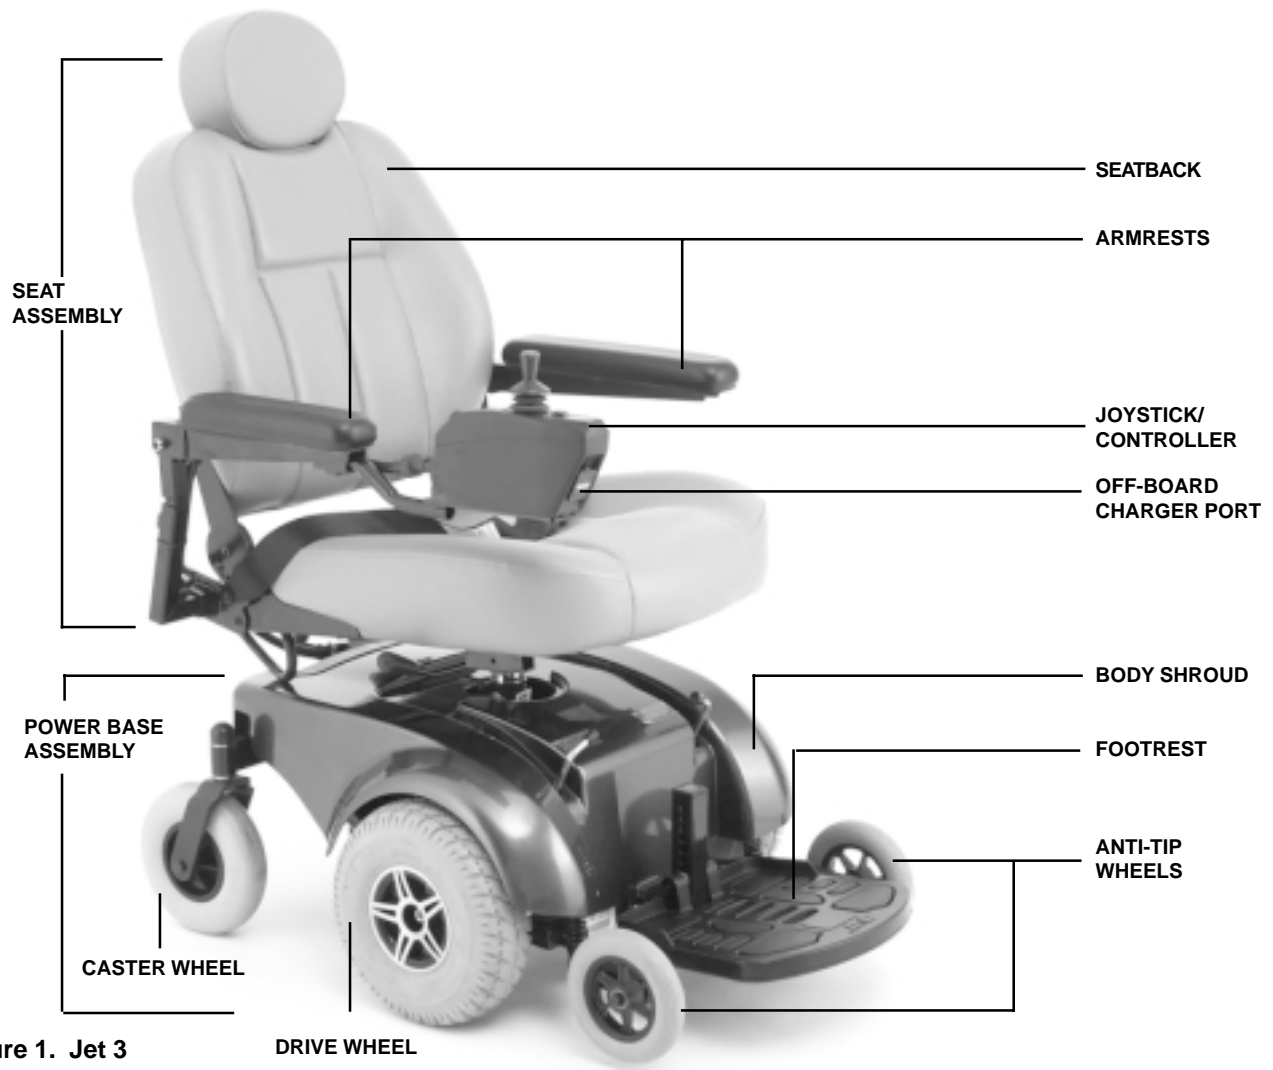

Figure 1. Jet 3
Your power chair has two main assemblies: the seat and the power base. See figures 1 and 2. There are a wide range of seating options for the power chair, as well as custom configurations. Commonly, the seating system consist of a seatback, armrests, controller, and footrest. Your power chair may have other specialty features to further enhance your mobility. If your power chair is equipped with other specialty features, refer to the information supplied with those products.
The electrical system is powered by two long-lasting, 12-volt, deep-cycle batteries. These batteries are connected in series to provide 24 volts of direct current (DC). The main electrical components consist of the batteries, a battery charging system, the main circuit breaker, the motor/brake assembly, and the controller (see figures 1, 2, and 4). Refer to "Pilot Controller" for more specific information on the controller.